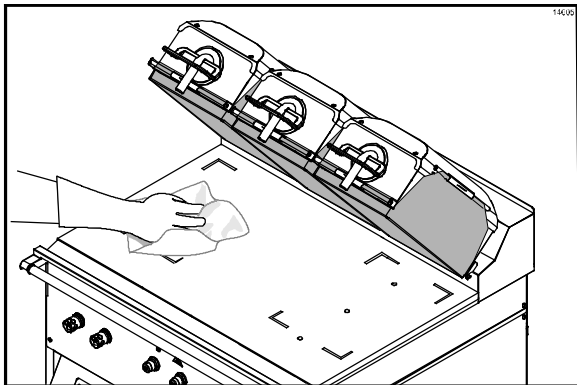

Figure 12
1. Clean the grill with a sanitizer-soaked grill cloth to remove any debris on the grill. (See Figure 12.)